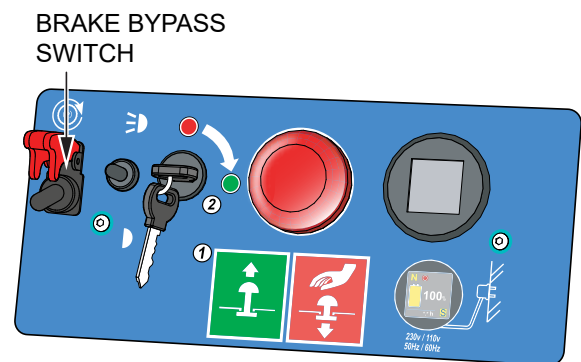

Figure 27. Brake Bypass Switch
1. Turn ignition key to the **ON** position (Figure 27).
2. **Push** upwards and **hold** the brake bypass switch (Figure 27).